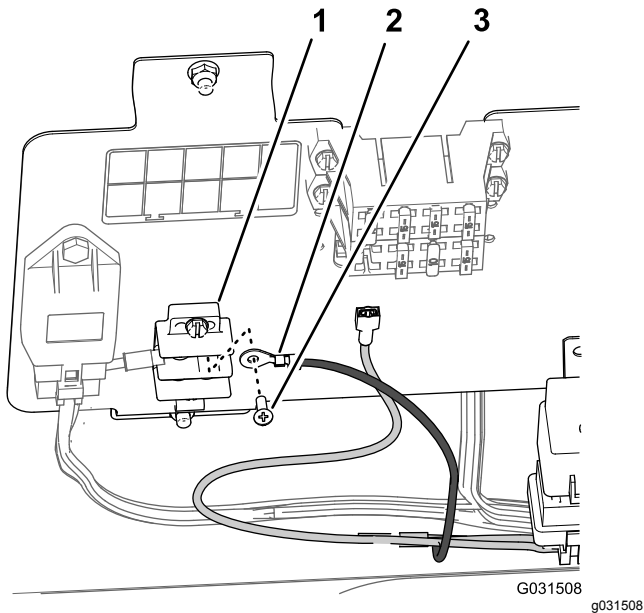

Figure 202
1. Remove a screw from the ground-terminal block (Figure 202).
2. Secure the ring terminal of the wire harness for the finishing kit to the ground-terminal block with the screw that you removed in step 1 (Figure 202).